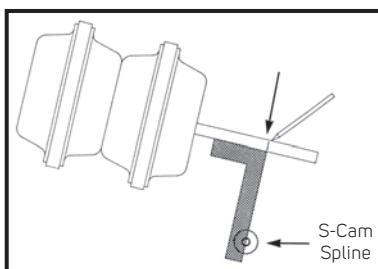

Figure 5 – Marking the Push Rod
3. Using a square, mark the universal push rod at the 90 degree position when the square edge is centered in the end of the S-Cam (see Figure 5). Make sure the push rod is centered in the chamber and not cocked before marking the push rod.